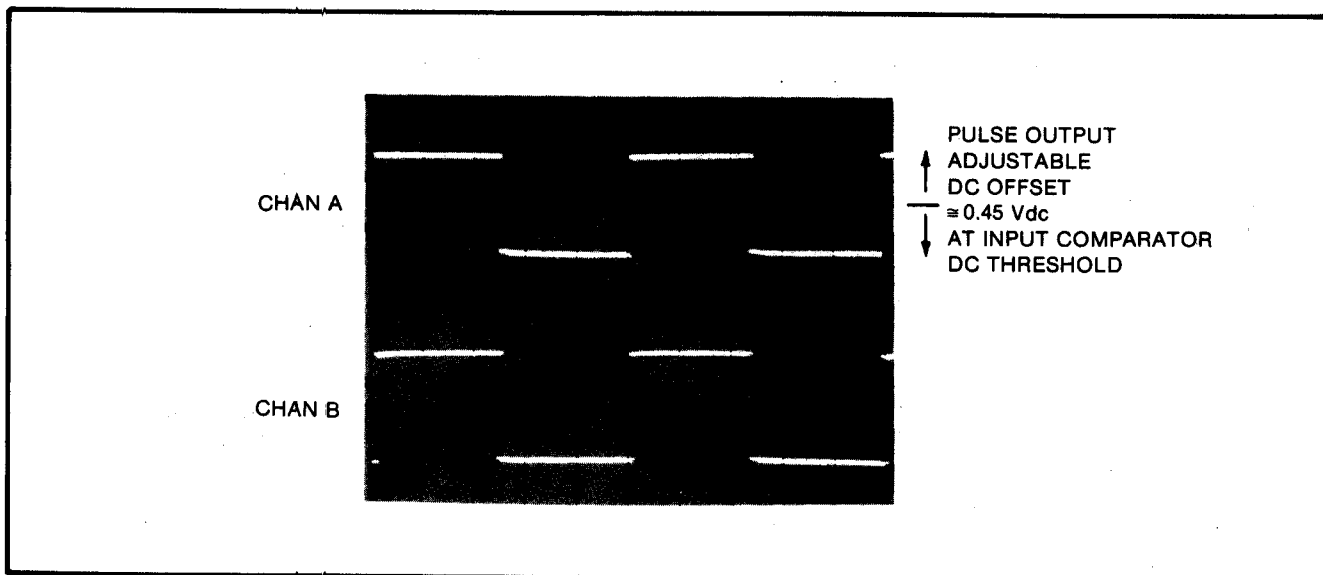
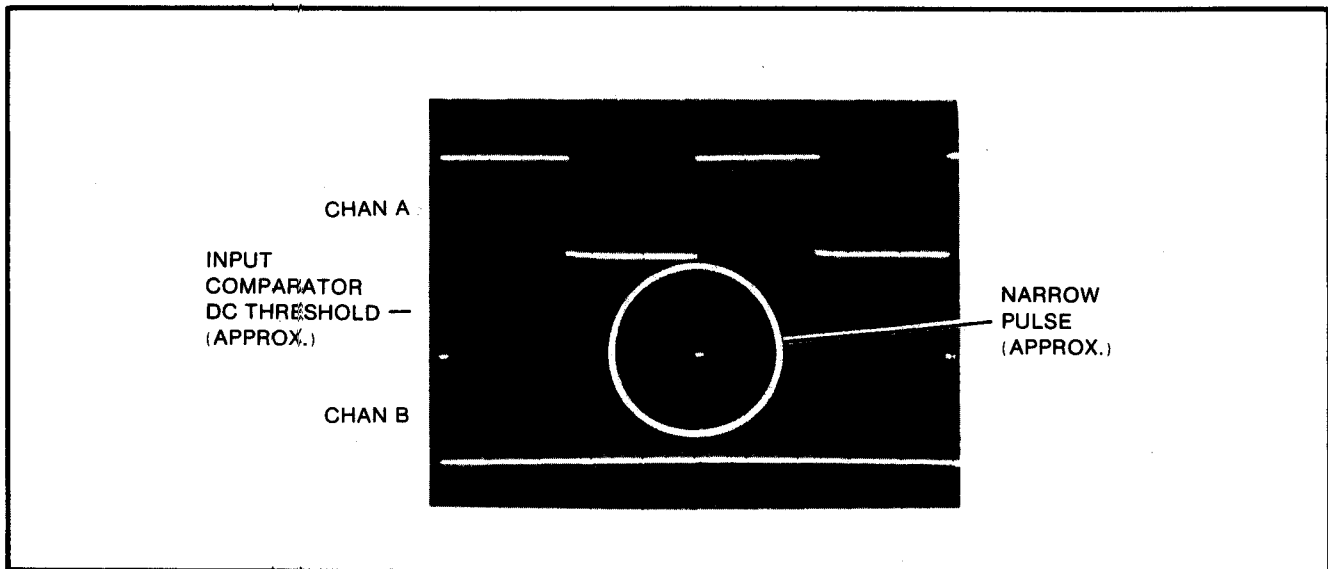

Figure 5-4. Voltage Comparator Triggering
Figure 5-5. Proper Compensation (Intermittent)
g. Begin with the Pulse Generator OFFSET VERNIER set to the fully negative position. Due to the hysteresis of the comparator circuitry, it is important for the input voltages to approach the trigger level from the negative direction. Using the OFFSET VERNIER, slowly raise the DC offset of the input signal until the voltage comparator output (U21 pin 10), displayed on Channel B of the oscilloscope, triggers as shown in Figure 5-4. The Channel A POSN (position) control should be readjusted as needed to return the input waveform to the display. Using the OFFSET VERNIER, decrease the DC offset slightly, and slowly increase it again until it just begins to trigger.
h. If the comparator circuit is properly compensated, the comparator output squarewave will "snap in" on Channel B (*Figure 5-4*). If the comparator circuit is uncompensated, the voltage comparator output will be displayed as a narrow pulse on Channel B (see *Figure 5-5*). Adjust A1C33 in the 5006A until the narrow pulse is tuned out as shown in *Figure 5-6*.